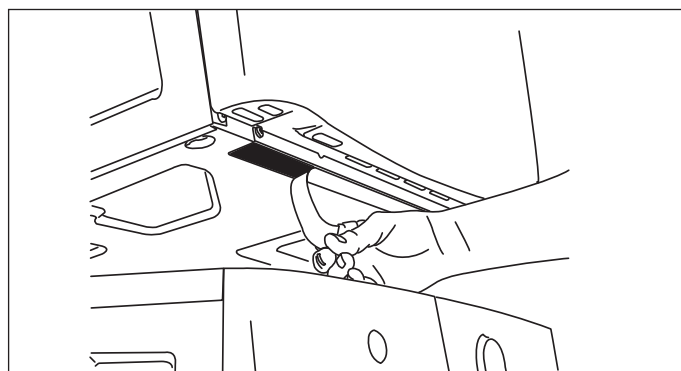

Figure 2-56.
5. Lift front of dryer and remove RED backing from adhesive strip on front bracket. (See Figure 2-56)